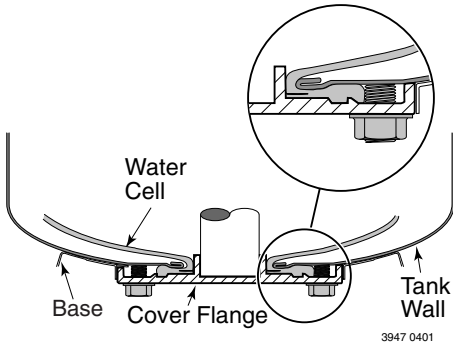

Figure 5 – Proper installation and seating
11. Clean sealing surface and groove of cover flange; place on tank (see Figure 5). Be sure to capture the base with the flange (the tabs on the base fit the notches on the flange).